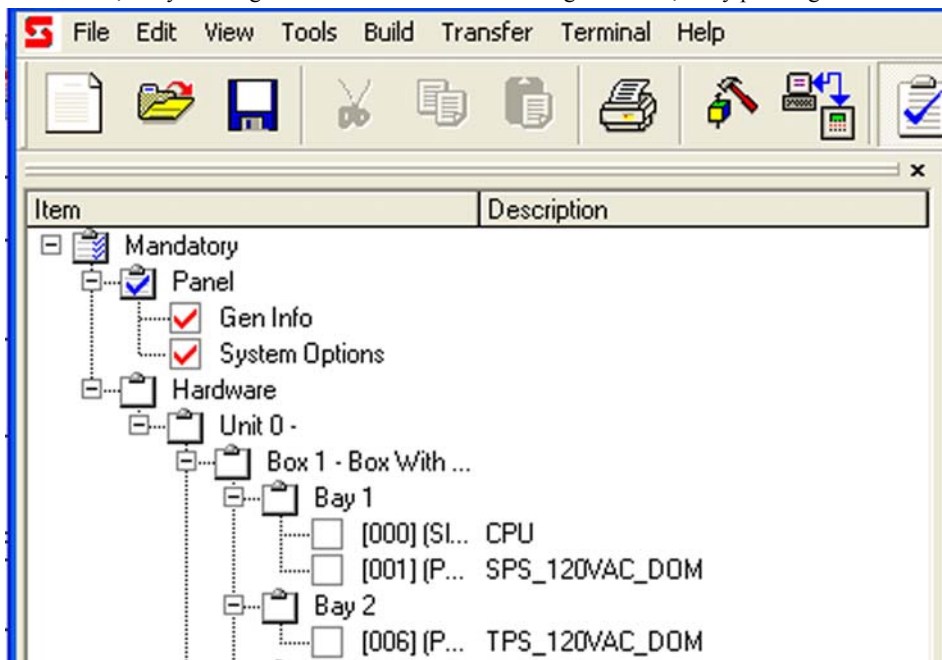

Figure 2-3. Programmer Checklist On
2. Click **Next** to continue the installation. The screen shown in Figure 2-3. appears, displaying the Software License Agreement.